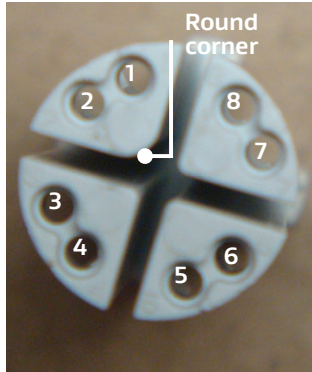
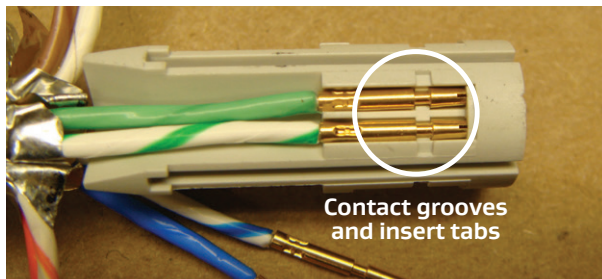

Figure 69: Connector insert positions
Figure 70: Contact grooves and insert tabs
19. Carefully insert each pair into the appropriate section of the connector insert according to the following table. Positions 1 and 2 are located on the section with the rounded corner at the center, which keys with the connector body (Figure 69). The grooves in the contacts should fit in between both tabs in each wire slot of the insert (Figure 70). **NOTE:** Wire color and location may depend on the individual requirements.